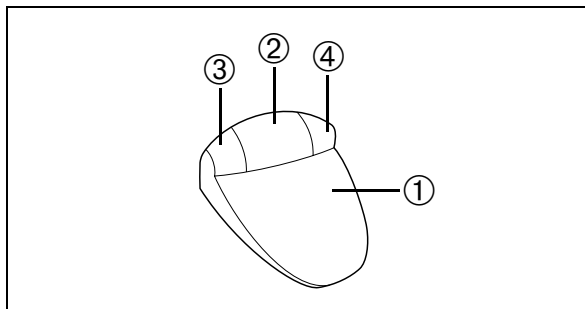

Fig. 27
You switch between dry and spray mode by tapping the right-hand button ④ (Fig. 27) on the foot control.